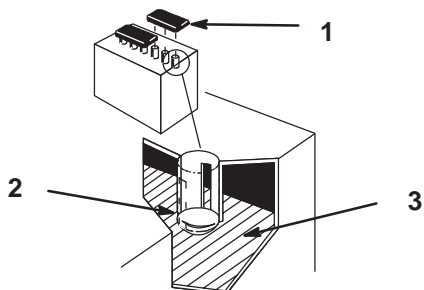

Figure 28
2. Remove the filler caps. If the electrolyte is not up to the lower part of the tube (Fig. 28), add the required amount of distilled water; refer to Adding Water to the Battery, page 26.
2. Remove the filler caps (Fig. 28).
3. Slowly pour distilled water into each battery cell until the level is up to the lower part of the tube (Fig. 28).